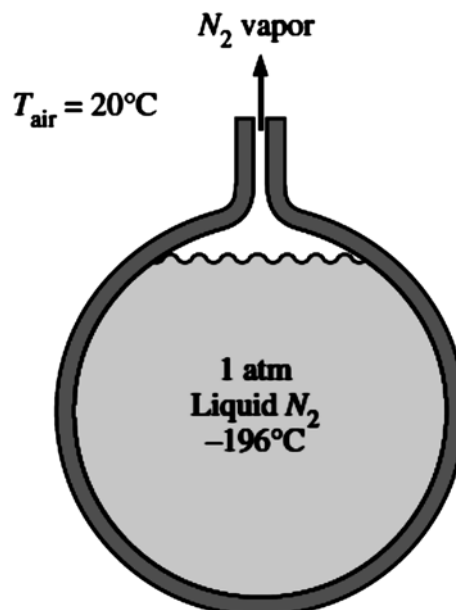

Figure Q3[a]
- Q3. [a] The boiling temperature of nitrogen at atmospheric pressure at sea level (1 atm) is -196°C . Therefore, nitrogen is commonly used in low temperature scientific studies since the temperature of liquid nitrogen in a tank open to the atmosphere will remain constant at -196°C until the liquid nitrogen in the tank is depleted. Any heat transfer to the tank will result in the evaporation of some liquid nitrogen, which has a heat of vaporization of 198 kJ/kg and a density of 810 kg/m^3 at 1 atm. Consider a 4-m-diameter spherical tank initially filled with liquid nitrogen at 1 atm and -196°C (as shown in Figure Q3[a]). The tank is exposed to 20°C ambient air with a heat transfer coefficient of $25\text{ W/m}^2\text{C}$. The temperature of the thin-shelled spherical tank is observed to be almost the same as the temperature of the nitrogen inside. Disregarding any radiation heat exchange, calculate the rate of evaporation of the liquid nitrogen in the tank as a result of the heat transfer from the ambient air.